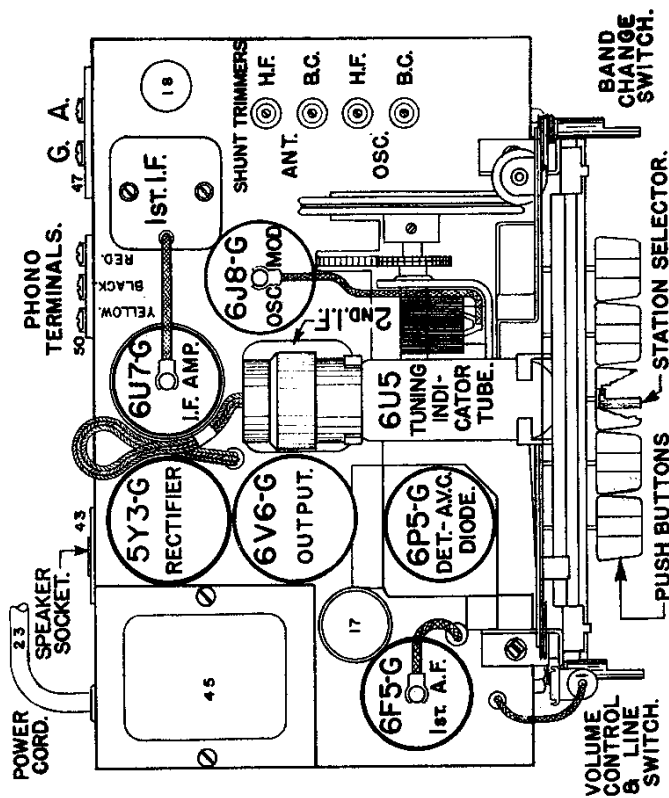

FIG. 2 Top View Model 718
- (b) Set the station selector so that the tuning condenser plates are completely out of mesh and turn the volume control to the right (ON).
- (e) Adjust both trimmers located on top of the 2nd I-F Transformer for maximum output (Fig. 2).